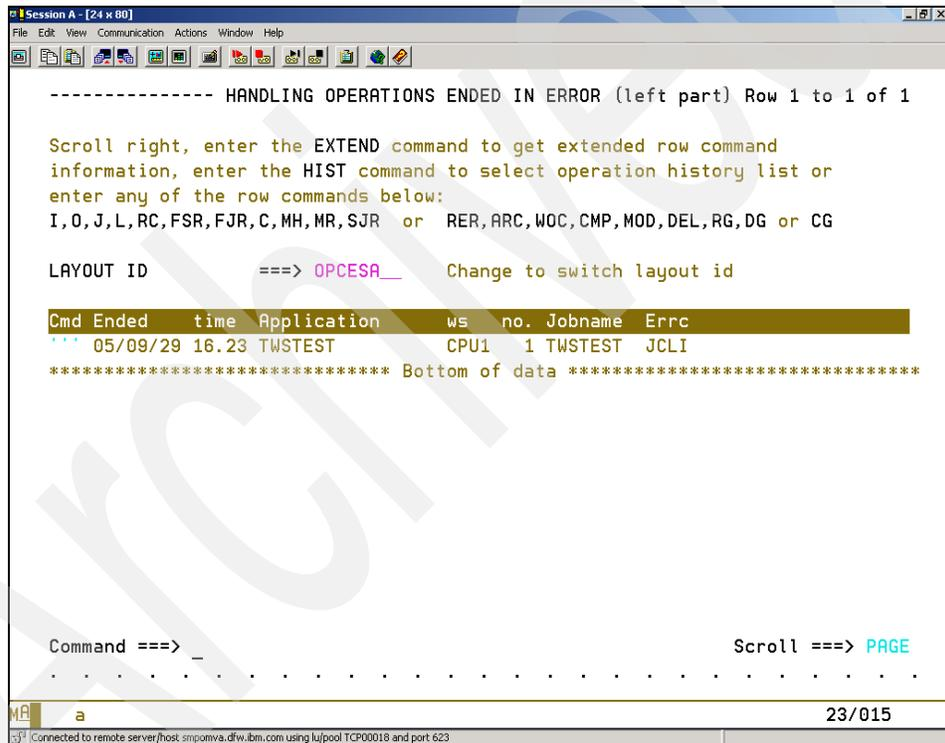

Figure 8-5 Handling Operations that Ended in Error
2. Now we are in the Handling Operations that Ended in Error panel (Figure 8-5 on page 190). Here you will find the jobs that ended in error based on your initial setup in the prior panel by filtering or not filtering out the Error list. Note that your Layout ID is the same as indicated on the panel. The error list shows the date and time the job ended in error, the application with which the job is associated, and the error code.
4. For our job that ended in error in Figure 8-5 on page 190, there is a rather simple fix. We see that the ERRRC is JCLI, so now we can look at and edit the JCL by designating J on the row command.
For our example, we change the spelling and type END to finish, which returns us to Figure 8-5 on page 190.